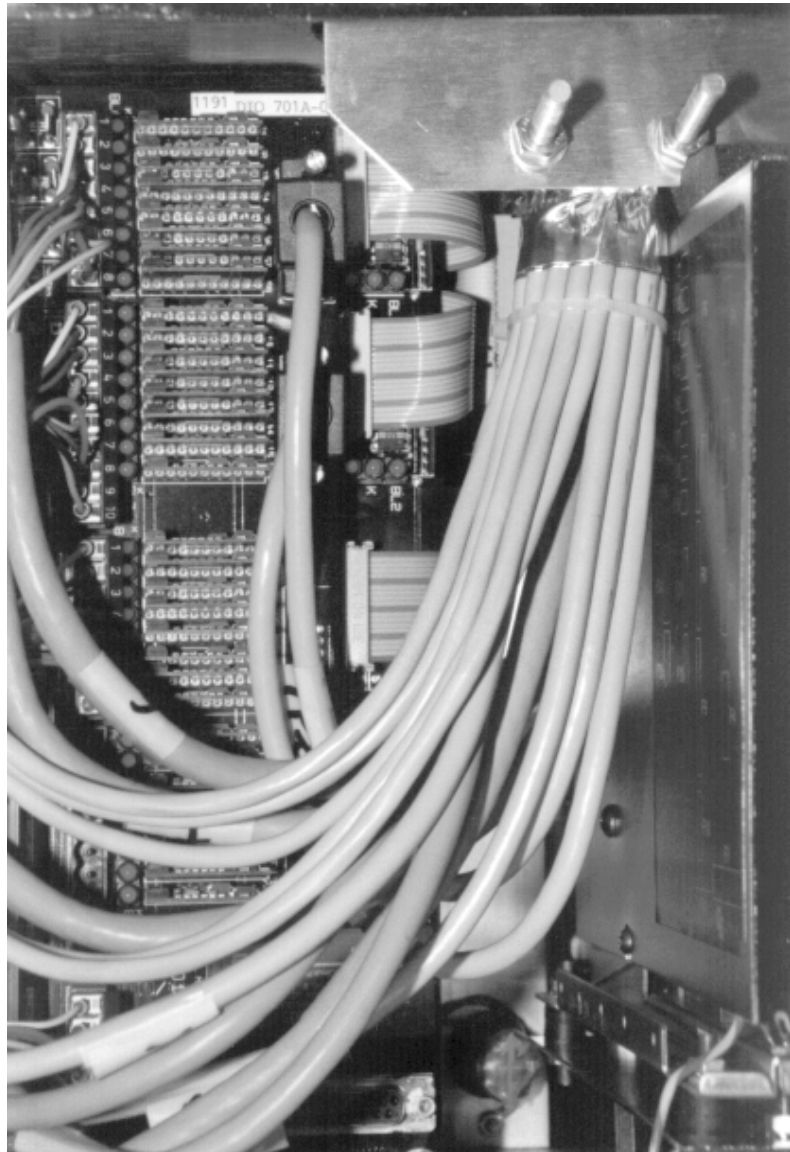

Fig. 7
- Figure 7 represents the DNC interior with the cables connected. It can be seen that the curve of the cables is harmonious and that the shielding of the RIA or WAGO plugs continues up to 3 to 4 cm from the plug.